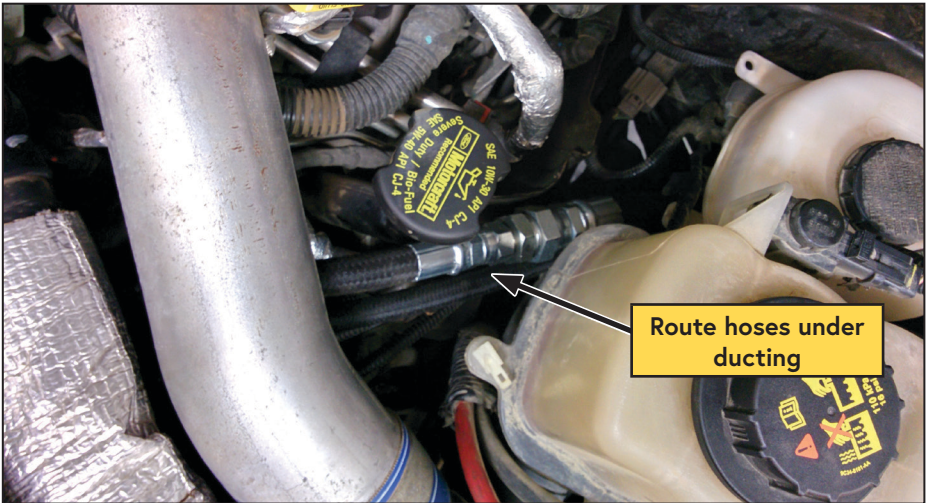

Figure 25 — VMAC hose routing
- Route the hoses and PTFE under the OEM Charge Air Cooler (CAC) tubing. Avoid the OEM vacuum lines, electrical harnesses, upper radiator hose, and the oil fill cap. The hoses should reappear near the coolant reservoir on the driver side of the engine bay (Figure 25).